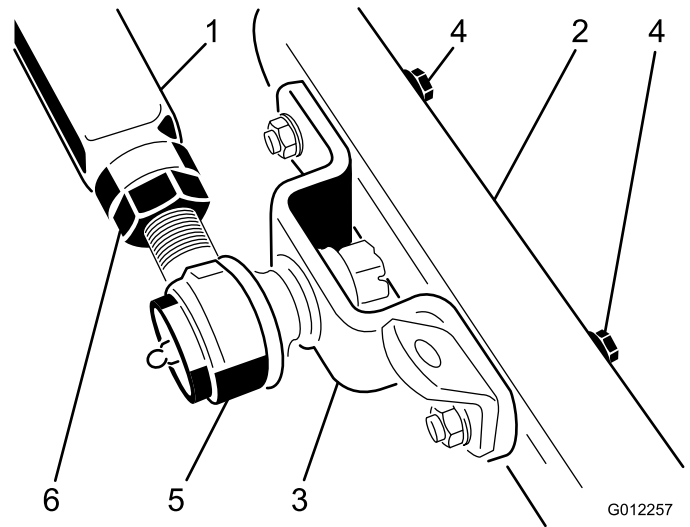

Figure 21
6. Have another person push down on the left push arm while you remove the capscrews, flat washers, and locknuts securing the ball joint mount and chain bracket to the castor arm on the cutting unit (Figure 21). Now the helper can carefully allow the push arm to move upward, which will gradually release the 150 pounds (68 kg) of spring load
5. Have another person carefully push down on the left push arm until the holes in the ball joint mount line up with the holes in the castor arm (Figure 21). Immediately slide a 4 x 4 inch block of wood between the top of the push arm and the underside of the chassis.